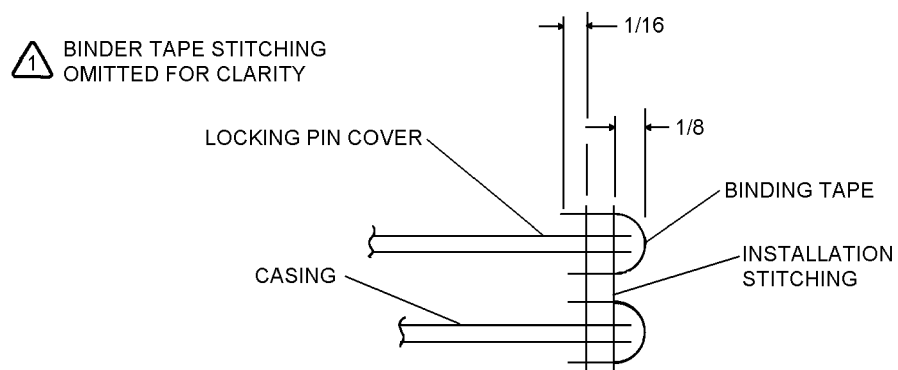

Figure 15-13. Locking Pin Cover Installation LPU-21D/P
4. Align locking pin cover with mating surface of casing assembly and install in accordance with figure 15-13.